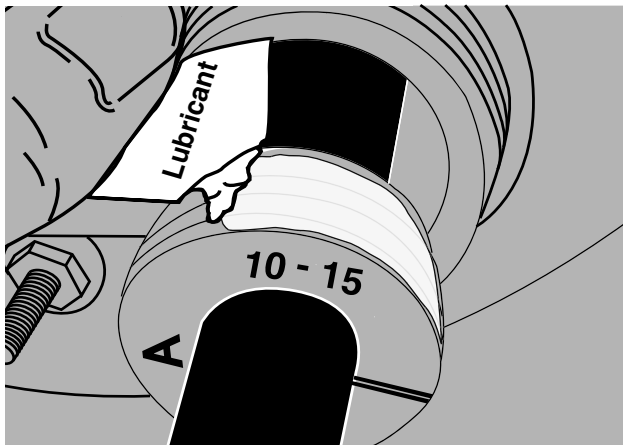

Figure 9
- From the packet provided apply a thin film of lubricant to the **outer** surfaces of both grommets entering the closure. Using finger pressure maneuver the grommets as far as possible into the Express Ports of the end plate. (Figure 9)